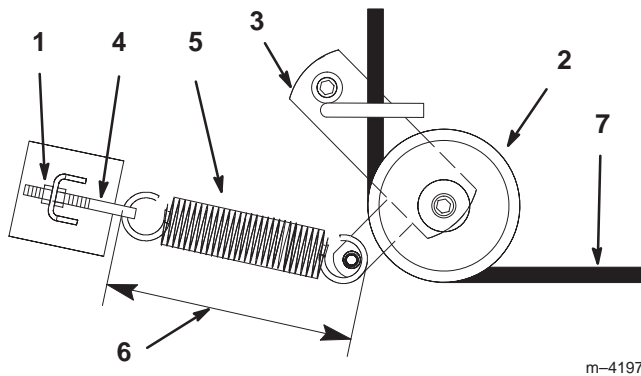

Figure 59
4. Loosen the outer nut on the spring eye bolt (Fig. 59).
6. Remove the spring loaded idler pulley (Fig. 59).
7. Route the new belt through the idler arm (Fig. 59).
9. Tighten the outer nut on the spring eye bolt (Fig. 59).
Note: Check the spring length. The spring should measure 9-3/8 ± 1/8 inch (238 ± 3 mm) when installed. Adjust if it does not (Fig. 59).